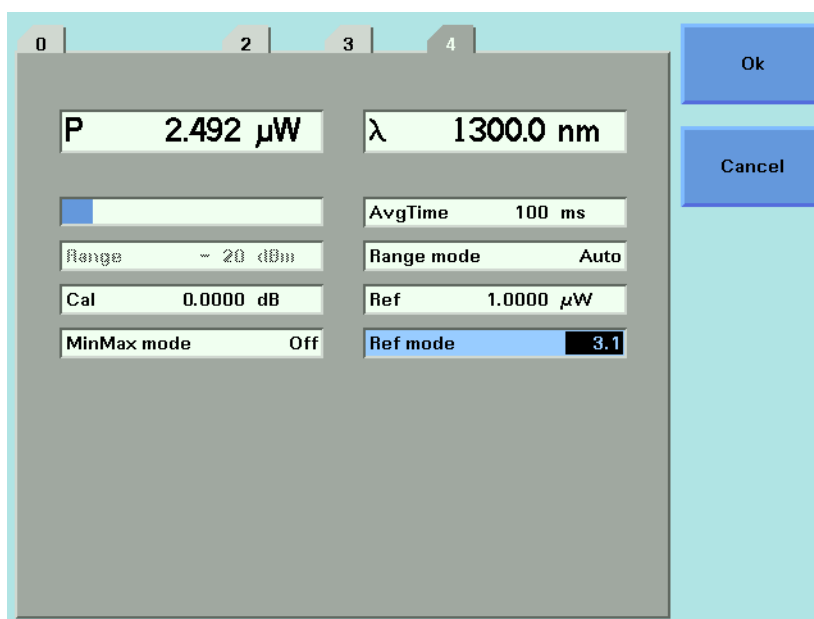

Figure 43 Referencing Another Channel
- 3 Move to the channel number you want to reference, using the cursor key, and press *Enter*. For example, in Figure 43, you could choose 3.1 (for channel 3.1). Refer to “Slot and Channel Numbers” on page 41 for information on channel numbers.